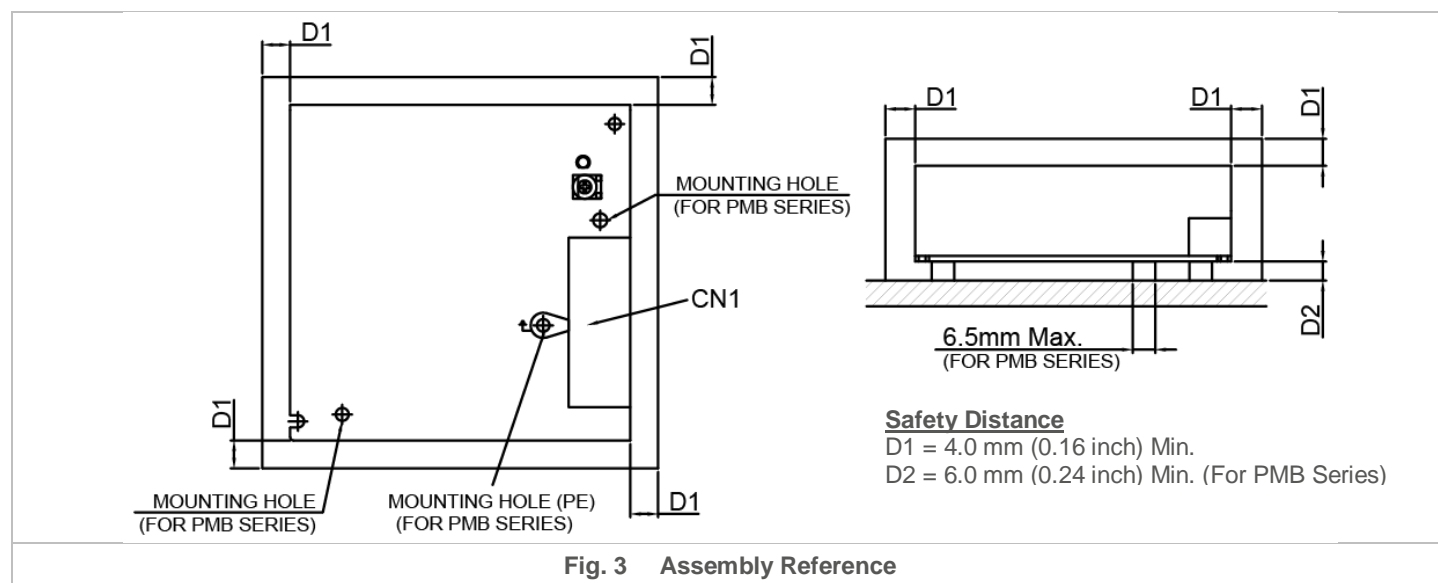

Fig. 3 Assembly Reference
- PM□-24V35W1AA□ / PM□-24V35W1AG:** Use flexible cable (stranded or solid) of AWG No. 22-12. User should calculate and select the suitable wire specification (type/quantity/diameter) according to actual output current. The torque at the Connector shall not exceed 13 Kgf.cm (11.23 lbf.in). The insulation stripping length should not exceed 0.275" or 7 mm (Refer to Fig. 3).
- **For PMB Series: (Refer to Fig. 3):** The mounting holes on any mounting accessories for the device should be kept at a diameter of < 6.5 mm (0.26 inch). This is to ensure sufficient safety distance between the mounting screw and the components around the mounting holes on the PCBA. Therefore, the diameter of the mounting screw should be kept at < 6.5 mm (0.26 inch).